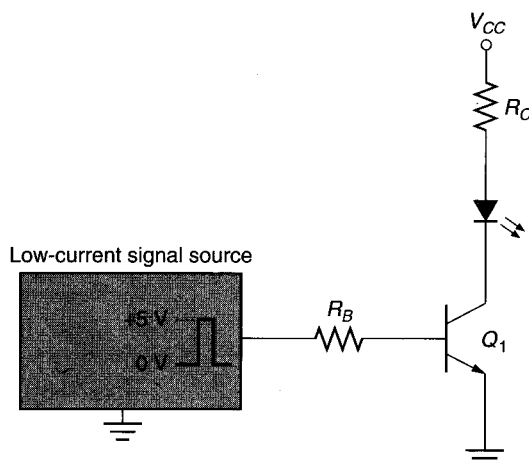

FIGURE 19.9 A typical application for the simple BJT switch.
A typical application for a BJT switch is illustrated in Figure 19.9. In this figure, the BJT is being used as an LED driver. A **driver** is a circuit used to couple a *low-current signal source* to a relatively high-current device. Assuming that the output current from the signal source is insufficient to light the LED, a driver is required to provide the current needed to light the LED.
Even though the driver shown in Figure 19.9 uses a BJT, drivers are commonly made with each of the active devices covered in this section. The device used in any driver application is determined by the system engineer, and no single active device seems to dominate this application.
8. Using only the components shown, how could the circuit shown in Figure 19.9 be altered to light the LED when the output from the signal source is 0 V?